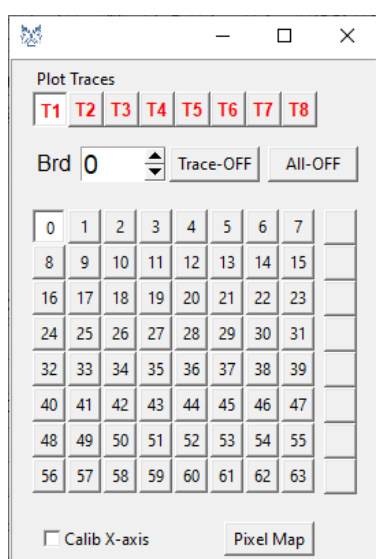

Fig. 10.24: Plot Traces window.
- Press the "Plot Traces" button . A window similar to that in Fig. 10.24 is opened. The window allows the user to choose between the different traces that can be visualized in the same *gnuplot* window.
7. Put a tick on the "Calib X-axis" parameter of the Janus Plot Traces window (see Fig. 10.24) in order to convert the X axis scale from Channels to ns.